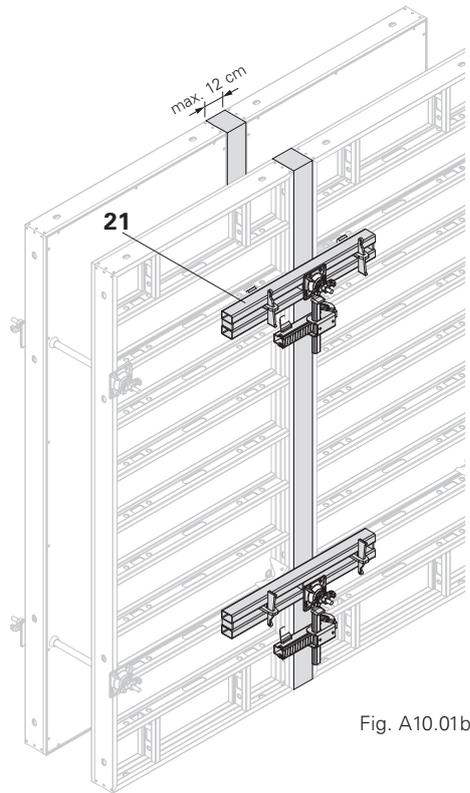

Fig. A10.01b
- Timber ≤ 12 cm with Alignment Coupler DRS and Compensation Waler DAR 80 (21) (Fig. A10.01b)
- Arrange Alignment Couplers DRS (20) as for standard panel joints